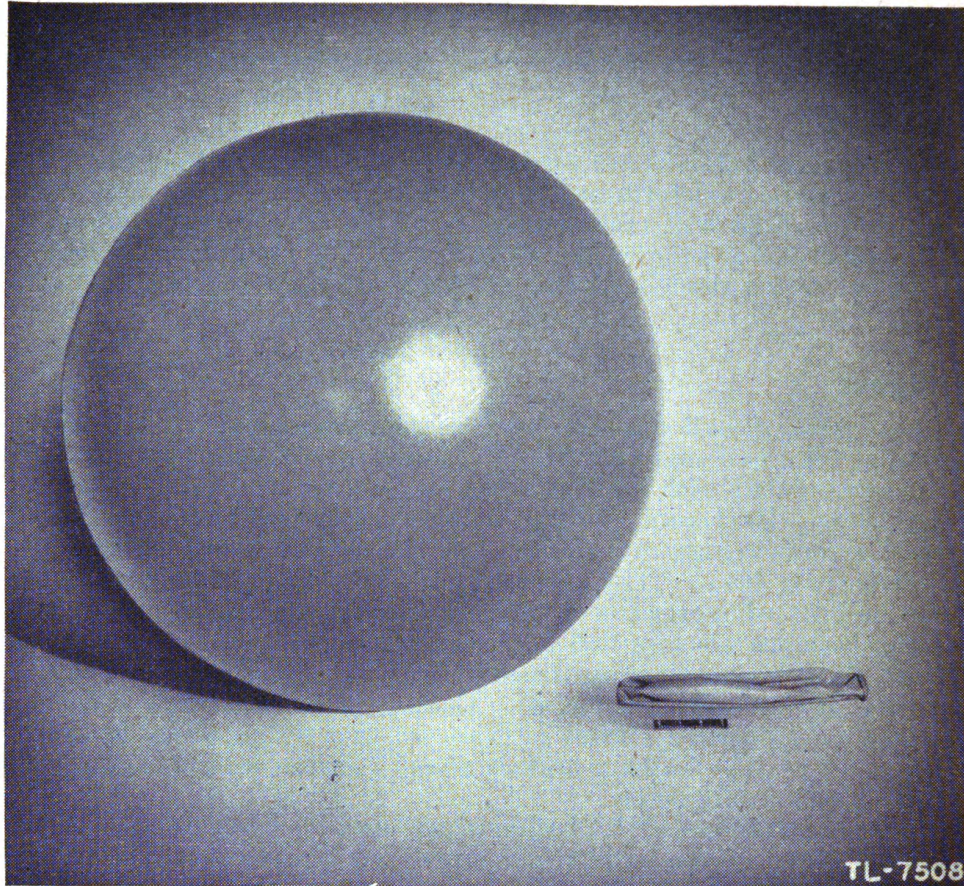

FIGURE 1. *Thirty-gram pilot balloon, inflated and deflated.*
(1) The smaller pilot balloons (fig. 1) are approximately 6 inches in diameter before inflation and weigh about 30 grams (1.06 ounces). The balloon neck is about 2½ inches long and 1½ inches in diameter. The balloon is of one-piece seamless construction. Thirty-gram pilot balloons are inflated to ascend at a constant rate of about 200 yards per minute (par. 16b) and are used for low-level observation (up to 30,000 feet). They are supplied in the following colors: white or uncolored, a dark color (black, dark blue, or purple), red, orange, and yellow to contrast with the condition of the sky at the time of observation (par. 4).
(2) The larger pilot balloons are approximately 16 inches in diameter before inflation and weigh about 100 grams (3.53 ounces). The balloon neck is made of relatively thick rubber, is about 2½ inches long, and is ⅞ inch to 1½ inches in diameter. Pilot balloons